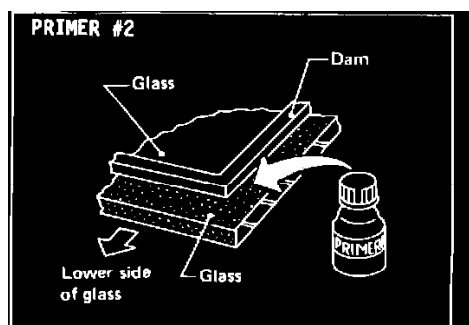
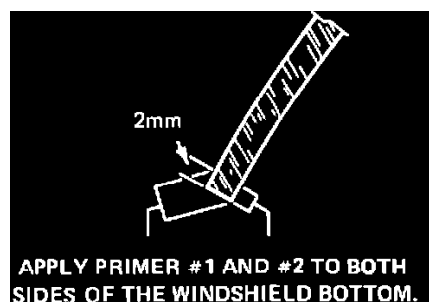

FIGURE 5A
FIGURE 5B
7. Using the small brush in the kit, apply primer bottle # 2 to the top and side windshield edges and lower surfaces (Figure 5a), and to both sides of the lower edge as indicated (Figure 5b).